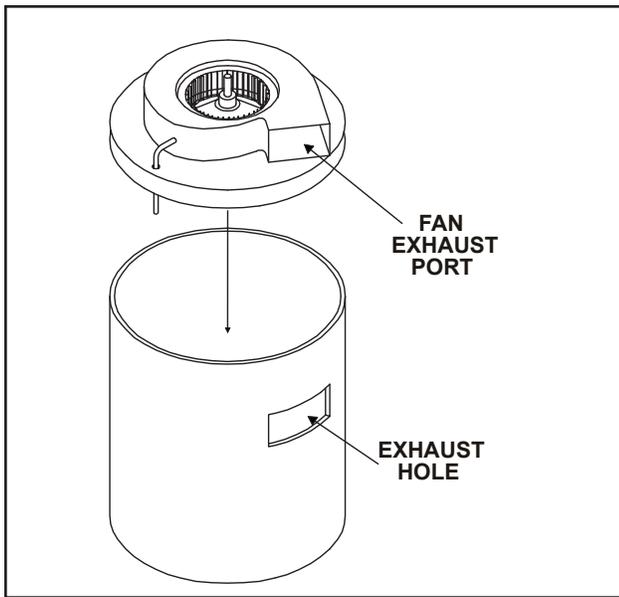

Figure 14.
- A. Slide the blower assembly into the 10-1/2 in. diameter collar, making sure that the exhaust port on the blower assembly lines up with the exhaust hole cut in the 10-1/2 in. diameter collar. See Figure 14.